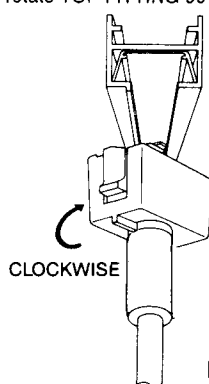
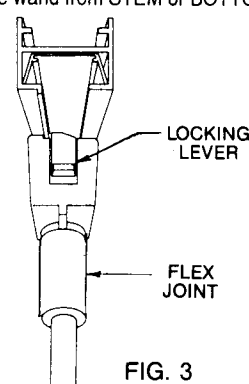

FIG. 2
FIG. 3
2. Rotate the top FITTING 90° clockwise, (See Fig. 2), until LOCKING LEVER snaps and locks in place. (See Fig. 3.) Do not rotate wand from STEM or BOTTOM HOUSING.